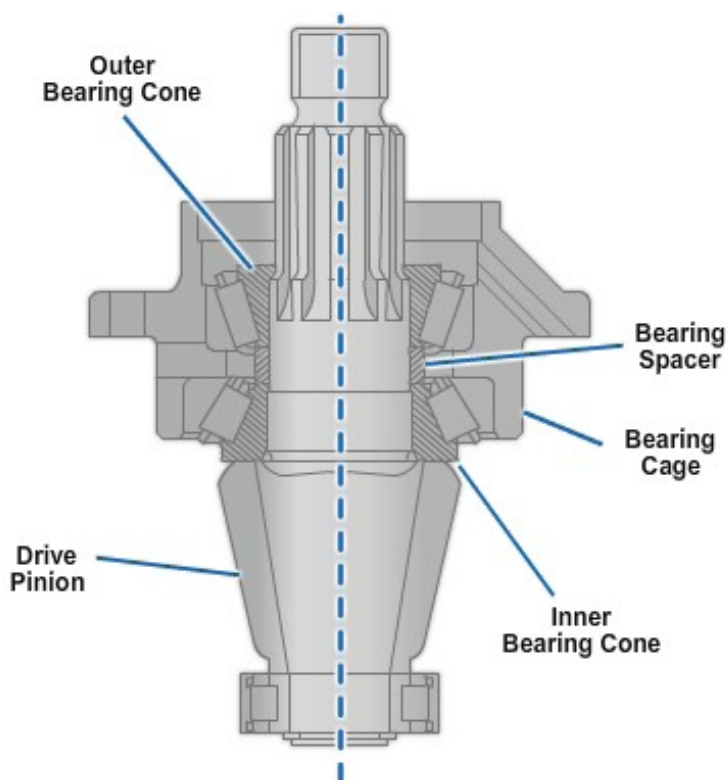

Figure 8-80 - Drive pinion assembly.
8. Install the bearing spacer(s) onto the pinion shaft against the inner bearing cone (*Figure 8-80*).